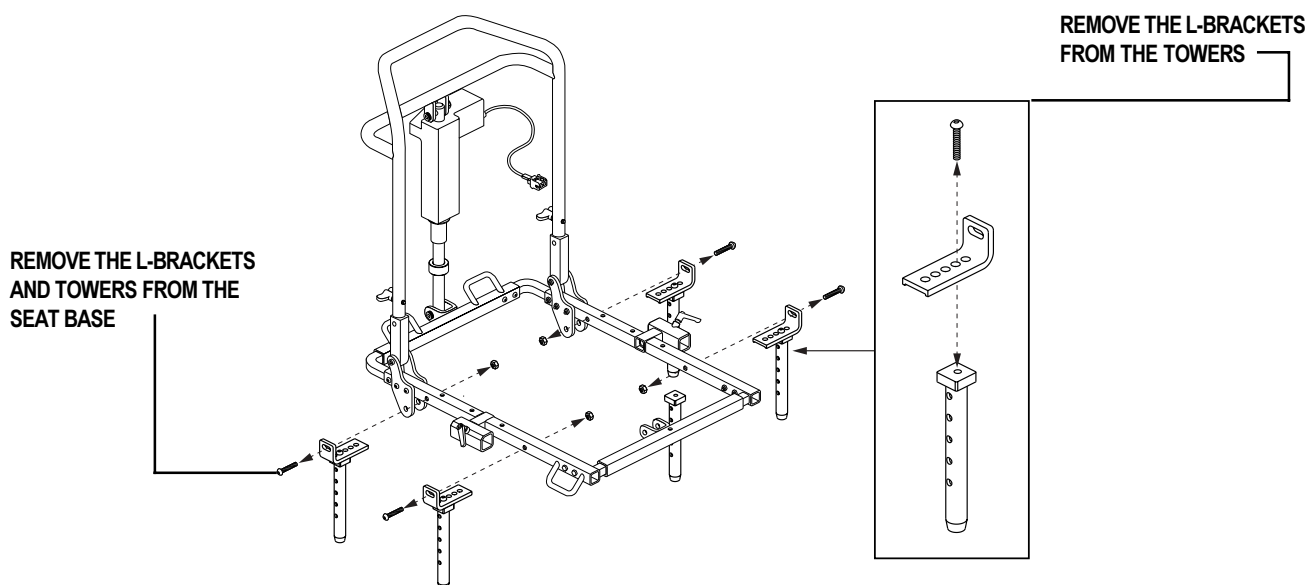

Figure 4. L-bracket/Tower Removal
3. Using the hex key and the open-end wrench, remove the button head screws and the Nylock nuts that secure the L-brackets to the seat base. Remove the L-brackets and towers from the seat base. See figure 4.
4. Using the hex key, remove each of the button head screws that secure the L-brackets to the towers. Remove the L-brackets from the towers. See figure 4.